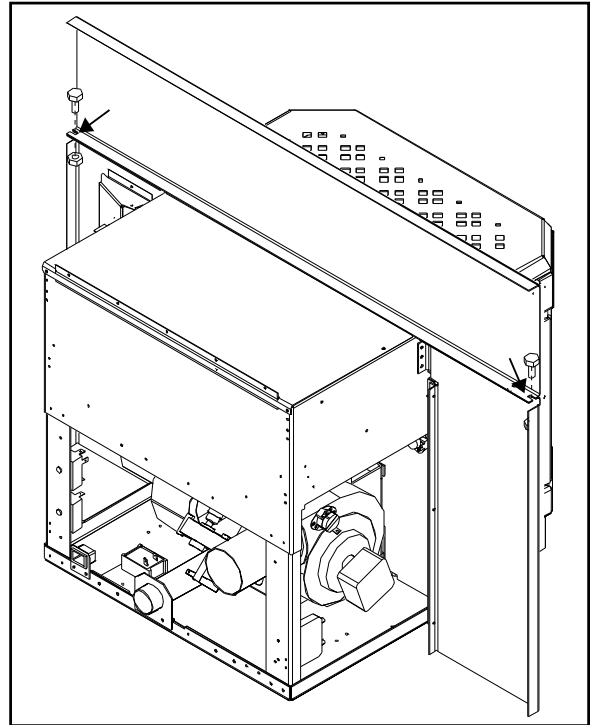

Figure 38: Assembling the Surround Panel, back view.
7. Insert each side panel anchor bolt through the top panel into the corresponding side panel holes and tighten using a $\frac{7}{16}$ " wench or socket (refer to Figure 38).